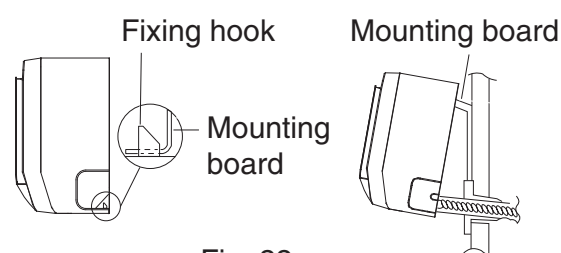

Fig. 22
- Hang the mounting slots of the indoor unit on the upper tabs of the rear panel and check if it is securely seated on the rear panel. (As show in Fig.22)